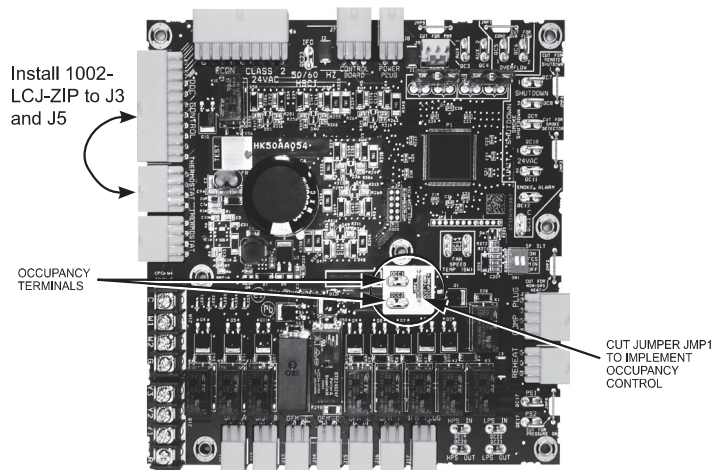

Fig. 8 - Central/Compressor Staging Control (CSC)
7. If not installing a 48/50LC-07 or larger, **skip this Step**. Locate second harness from KIT-SRT15Cx-LC, 1002-LCJ-ZIP, and J5 and J3 of the Compressor Staging Control (CSC). See Fig. 8 and provided Wire Diagram for details.
7. If not installing a 48/50LC-07 or larger, **skip this Step**. Locate second harness from KIT-SRT15Cx-LC, 1002-LCJ-ZIP and plug onto J5 and J3 of the Compressor Staging Control (CSC). See **Fig. 8** and provided Wire Diagram for details.